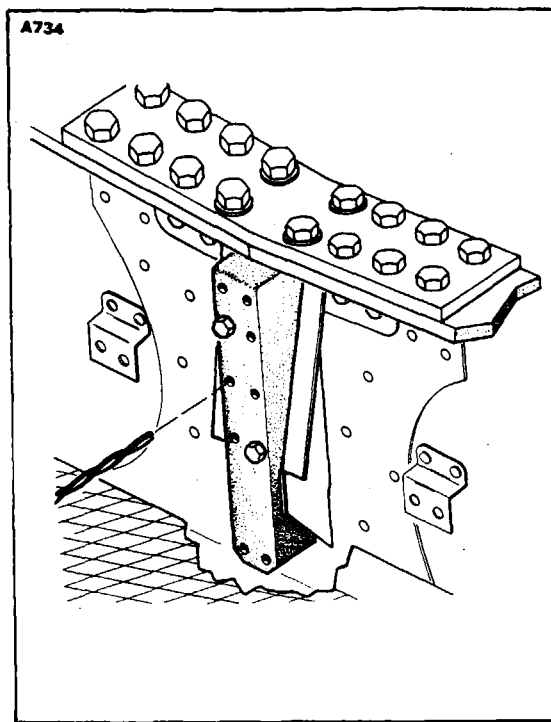

Figure 4-5. Positioning of Main Spar Aligning Tool
- k. Attach the front spar to the fuselage frame bracket with a bolt installed from the front and secured with a self-locking nut. A maximum of two washers (AN960-616) may be installed between spar fitting and frame bracket to provide a proper fit. When installing a new wing, first drill a pilot hole through the forward side of the spar using a fabricated tool, as shown in Figure 4-5, for hole alignment, and a .125 inch drill. (The tool may be fabricated from dimensions given in Figure 4-22.) Then, drill out the spar attachment hole from the aft side using a .375 inch drill.
1. Bolt the center of butt end of the main spar. If a new wing is being installed, it will be necessary to drill holes in the spar to .189/.191 of an inch to match the fuselage frame fitting. Drill the holes in the spar with the use of a hole jig as shown in Figure 4-5, and a .189 (No. 12) inch drill. (The tool may be fabricated from dimensions given in Figure 4-21.)